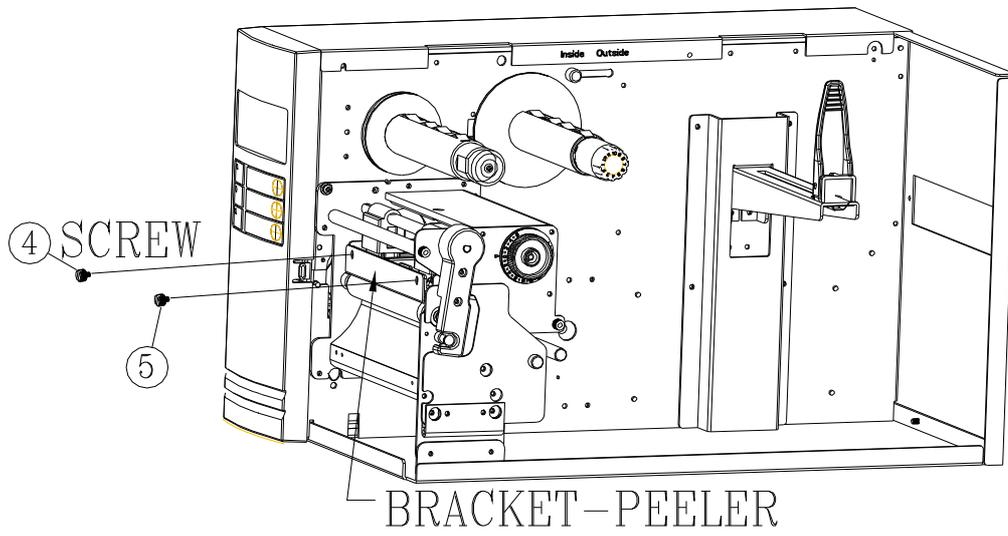

Figure 7.2
5. Remove the tear-off bracket (5) by releasing screws (4). (Figure 7.2).
4. Remove the tear-off bracket (5) by releasing screws (4) (Figure 7.2).